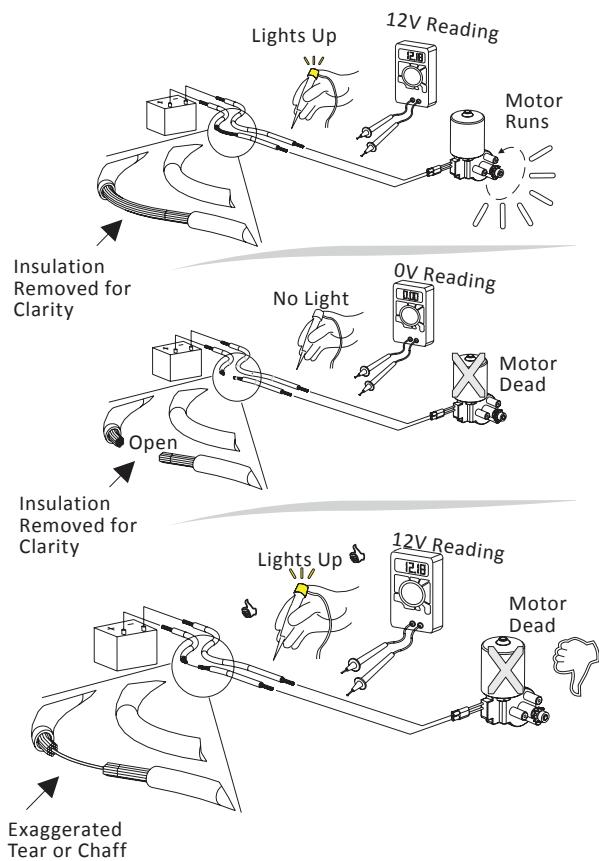

Figure 9-1
1. Be careful when troubleshooting with the voltage meter. The instruments will detect voltage but may not indicate a tear or poor connection in the wiring. An instrument may give a false reading since it will only indicate that there is some wire connection, but this wire connection may not necessarily be sufficient. *See Figure 9-1.*